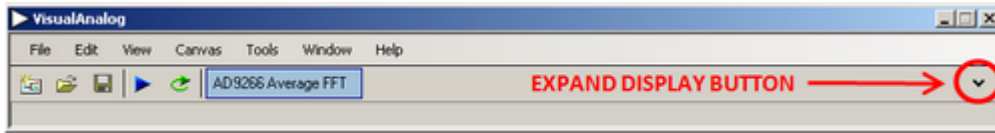
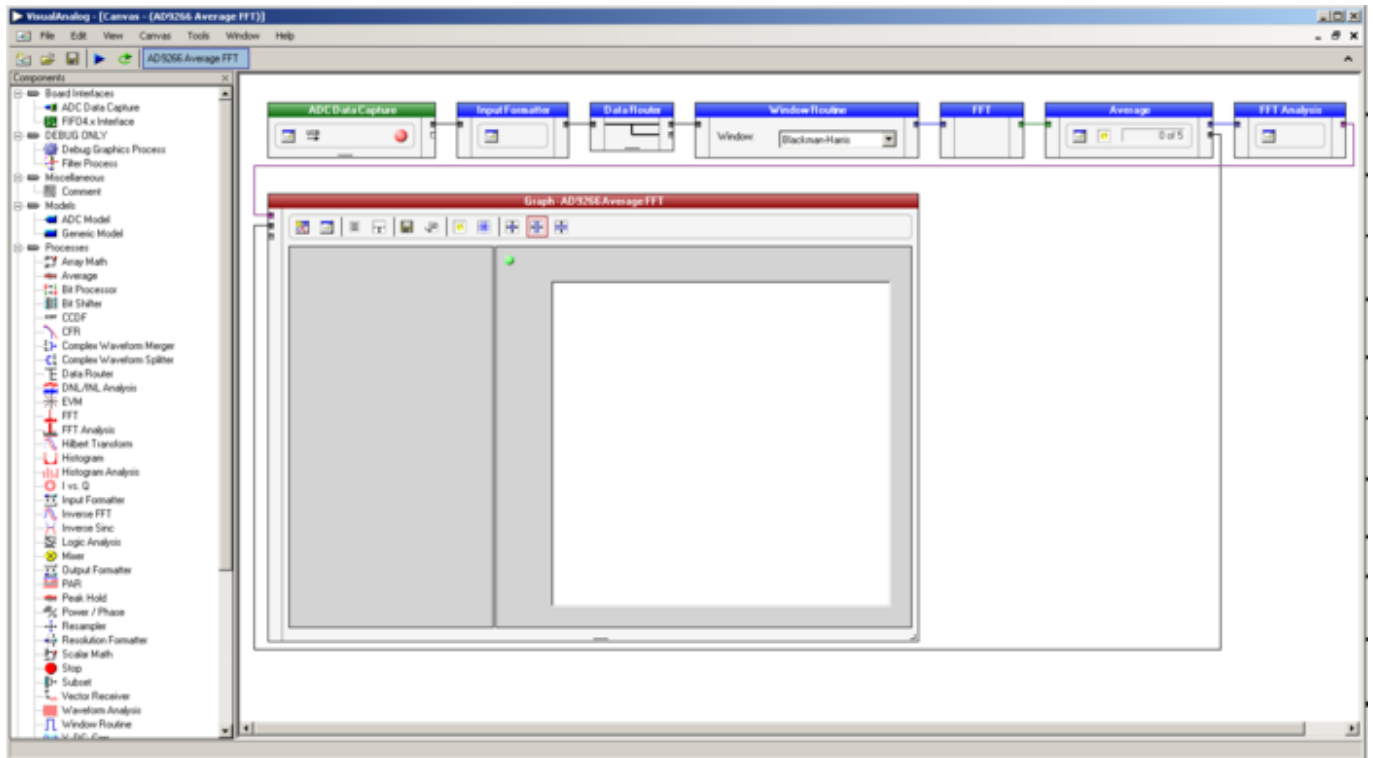

Figure 5. VisualAnalog Window Toolbar, Collapsed Display
Figure 6. VisualAnalog, Main Window Expanded Display
5. To change features to settings other than the default settings, click the **Expand Display** button, located on the right side of the window (see Figure 5), to display the window shown in Figure 6.